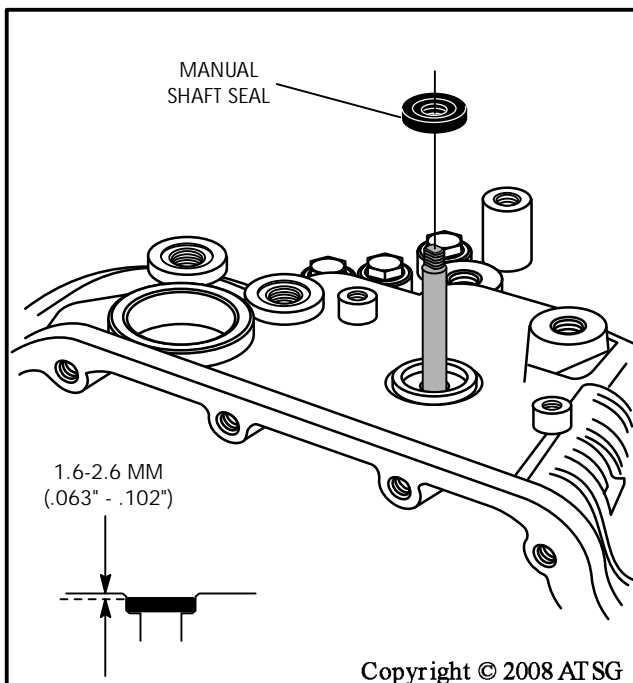

Figure 81
35. Install a new manual shaft seal and ensure it is approximately 1/16" below case surface, as shown in Figure 81.